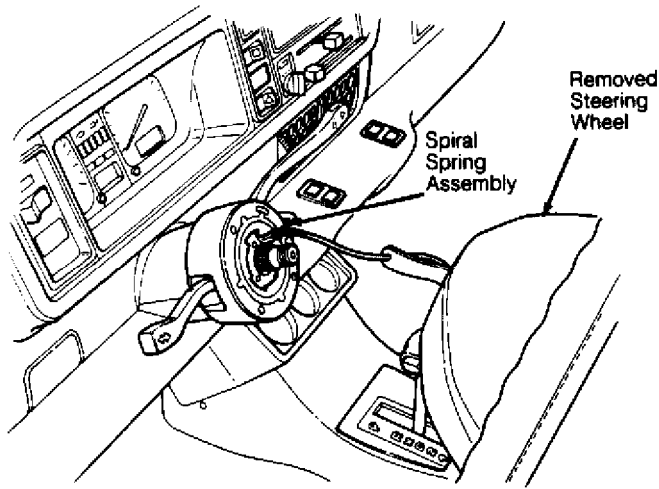

Fig. 3: Removing Spiral Spring Assembly
2) Remove air bag unit. See AIR BAG UNIT. Remove steering wheel. See STEERING WHEEL. Remove knee bar panel and steering column lower trim. Disconnect 2-pin wiring connector (Green/Black and Green/Red wires) at base of steering column. Remove 3 spiral spring retaining screws, and remove spiral spring. See Fig. 3.